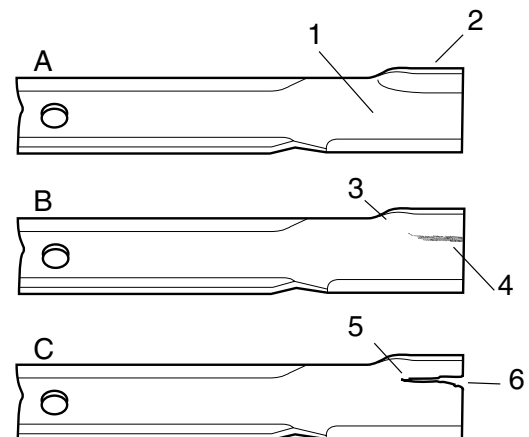

Figure 19
2. Examine the cutting ends of the blade carefully, especially where the flat and curved parts of the blade meet (Fig. 19 A). Since sand and abrasive material can wear away the metal that connects the flat and curved parts of the blade, check the blade before using the mower. If wear is noticed (Fig. 19 B), replace the blade.
If the blade is allowed to wear, a slot will form between the sail and the flat part of the blade (Fig. 19 C). Eventually a piece of the blade may break off and be thrown from under the housing, possibly resulting in serious injury to yourself or to bystanders.